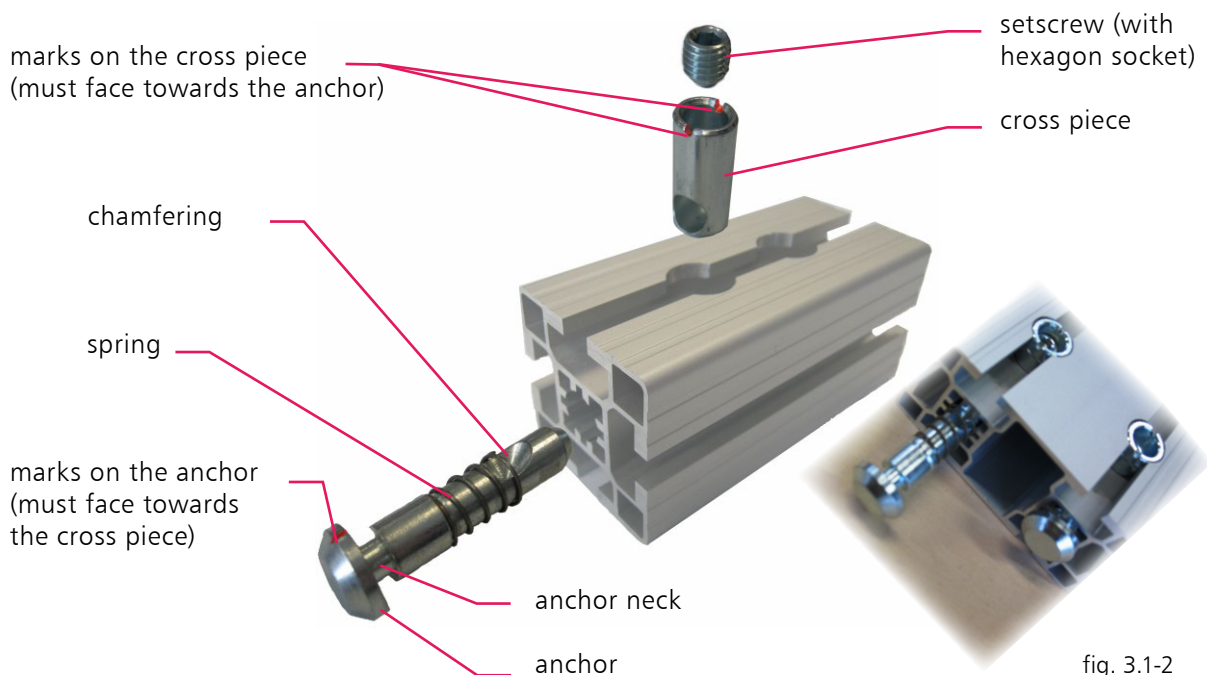

fig. 3.1-2
Step 2 Before you start putting together the frame base **A1** (*fig. 3.1-3*), please attach all the profile connectors to the provided positions at the frame base profiles first. Four (4) profile connectors should be kept for the side supports of the aluminium frame. In order to fasten the profile connectors, the chamfering should point towards the cross piece which is indicated by the mark at the anchor (*fig. 3.1-2*). The set screw will be slightly screwed into the cross piece with the corresponding Allen key. The anchor will be drawn into the profile automatically. It is important that you can still see the neck of the anchor (*fig. 3.1-4*) to be able to insert it into the lead channels at a later point (*fig. 3.1-5*). It might be the case that you need to push the anchor slightly against the cross piece while screwing it in.
Step ⑨ Place the frame base **A1** with the rubber feet at the lower side the way that the projecting profiles **A1c** are facing you (**fig. 3.1-15**). To ensure the **twall®** is firm and stable a compact and even stand space is required. Before you start putting together the aluminium frame, please attach all the profile connectors to the provided positions at the frame profiles. Four (4) profile connectors were kept earlier (see step 2) to be fastened to the side supports of the aluminium frame. In order to fasten the profile connectors, the chamfering should point towards the cross piece which is indicated by the mark at the anchor (**fig. 3.1-2**). In order to fasten the profile connectors, the chamfering should point towards the cross piece which is indicated by the mark at the anchor (**fig. 3.1-16**). It might be the case that you need to push the anchor slightly against the cross piece while screwing it in.